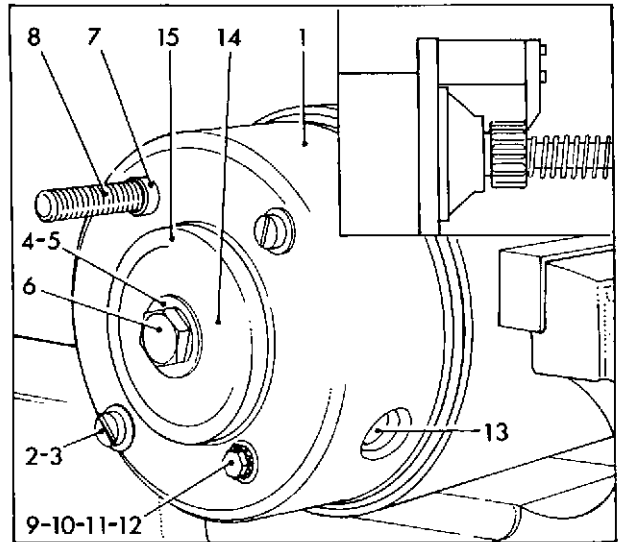

Fig. 27 Replacing commutator end shield
3. Assemble the end shield (1) fig. 27 onto the yoke, ensuring that it is correctly located and the brush leads are not trapped.
4. Insert both through bolts (2) with sealing washers (3) and tighten to a torque value of 12.9 to 13.6 Nm (9.5 to 10 lbf. ft.).
5. Check the pinion to flange clearance, using Gauge Tool No. 5693-222, by holding the gauge firmly against the flange as shown in inset on fig. 27. With the pinion loaded slightly inwards the arm of the gauge should just clear the face of the pinion. To adjust this clearance add or subtract shims as necessary between the recoil housing and the end shield boss. Shims of vary-